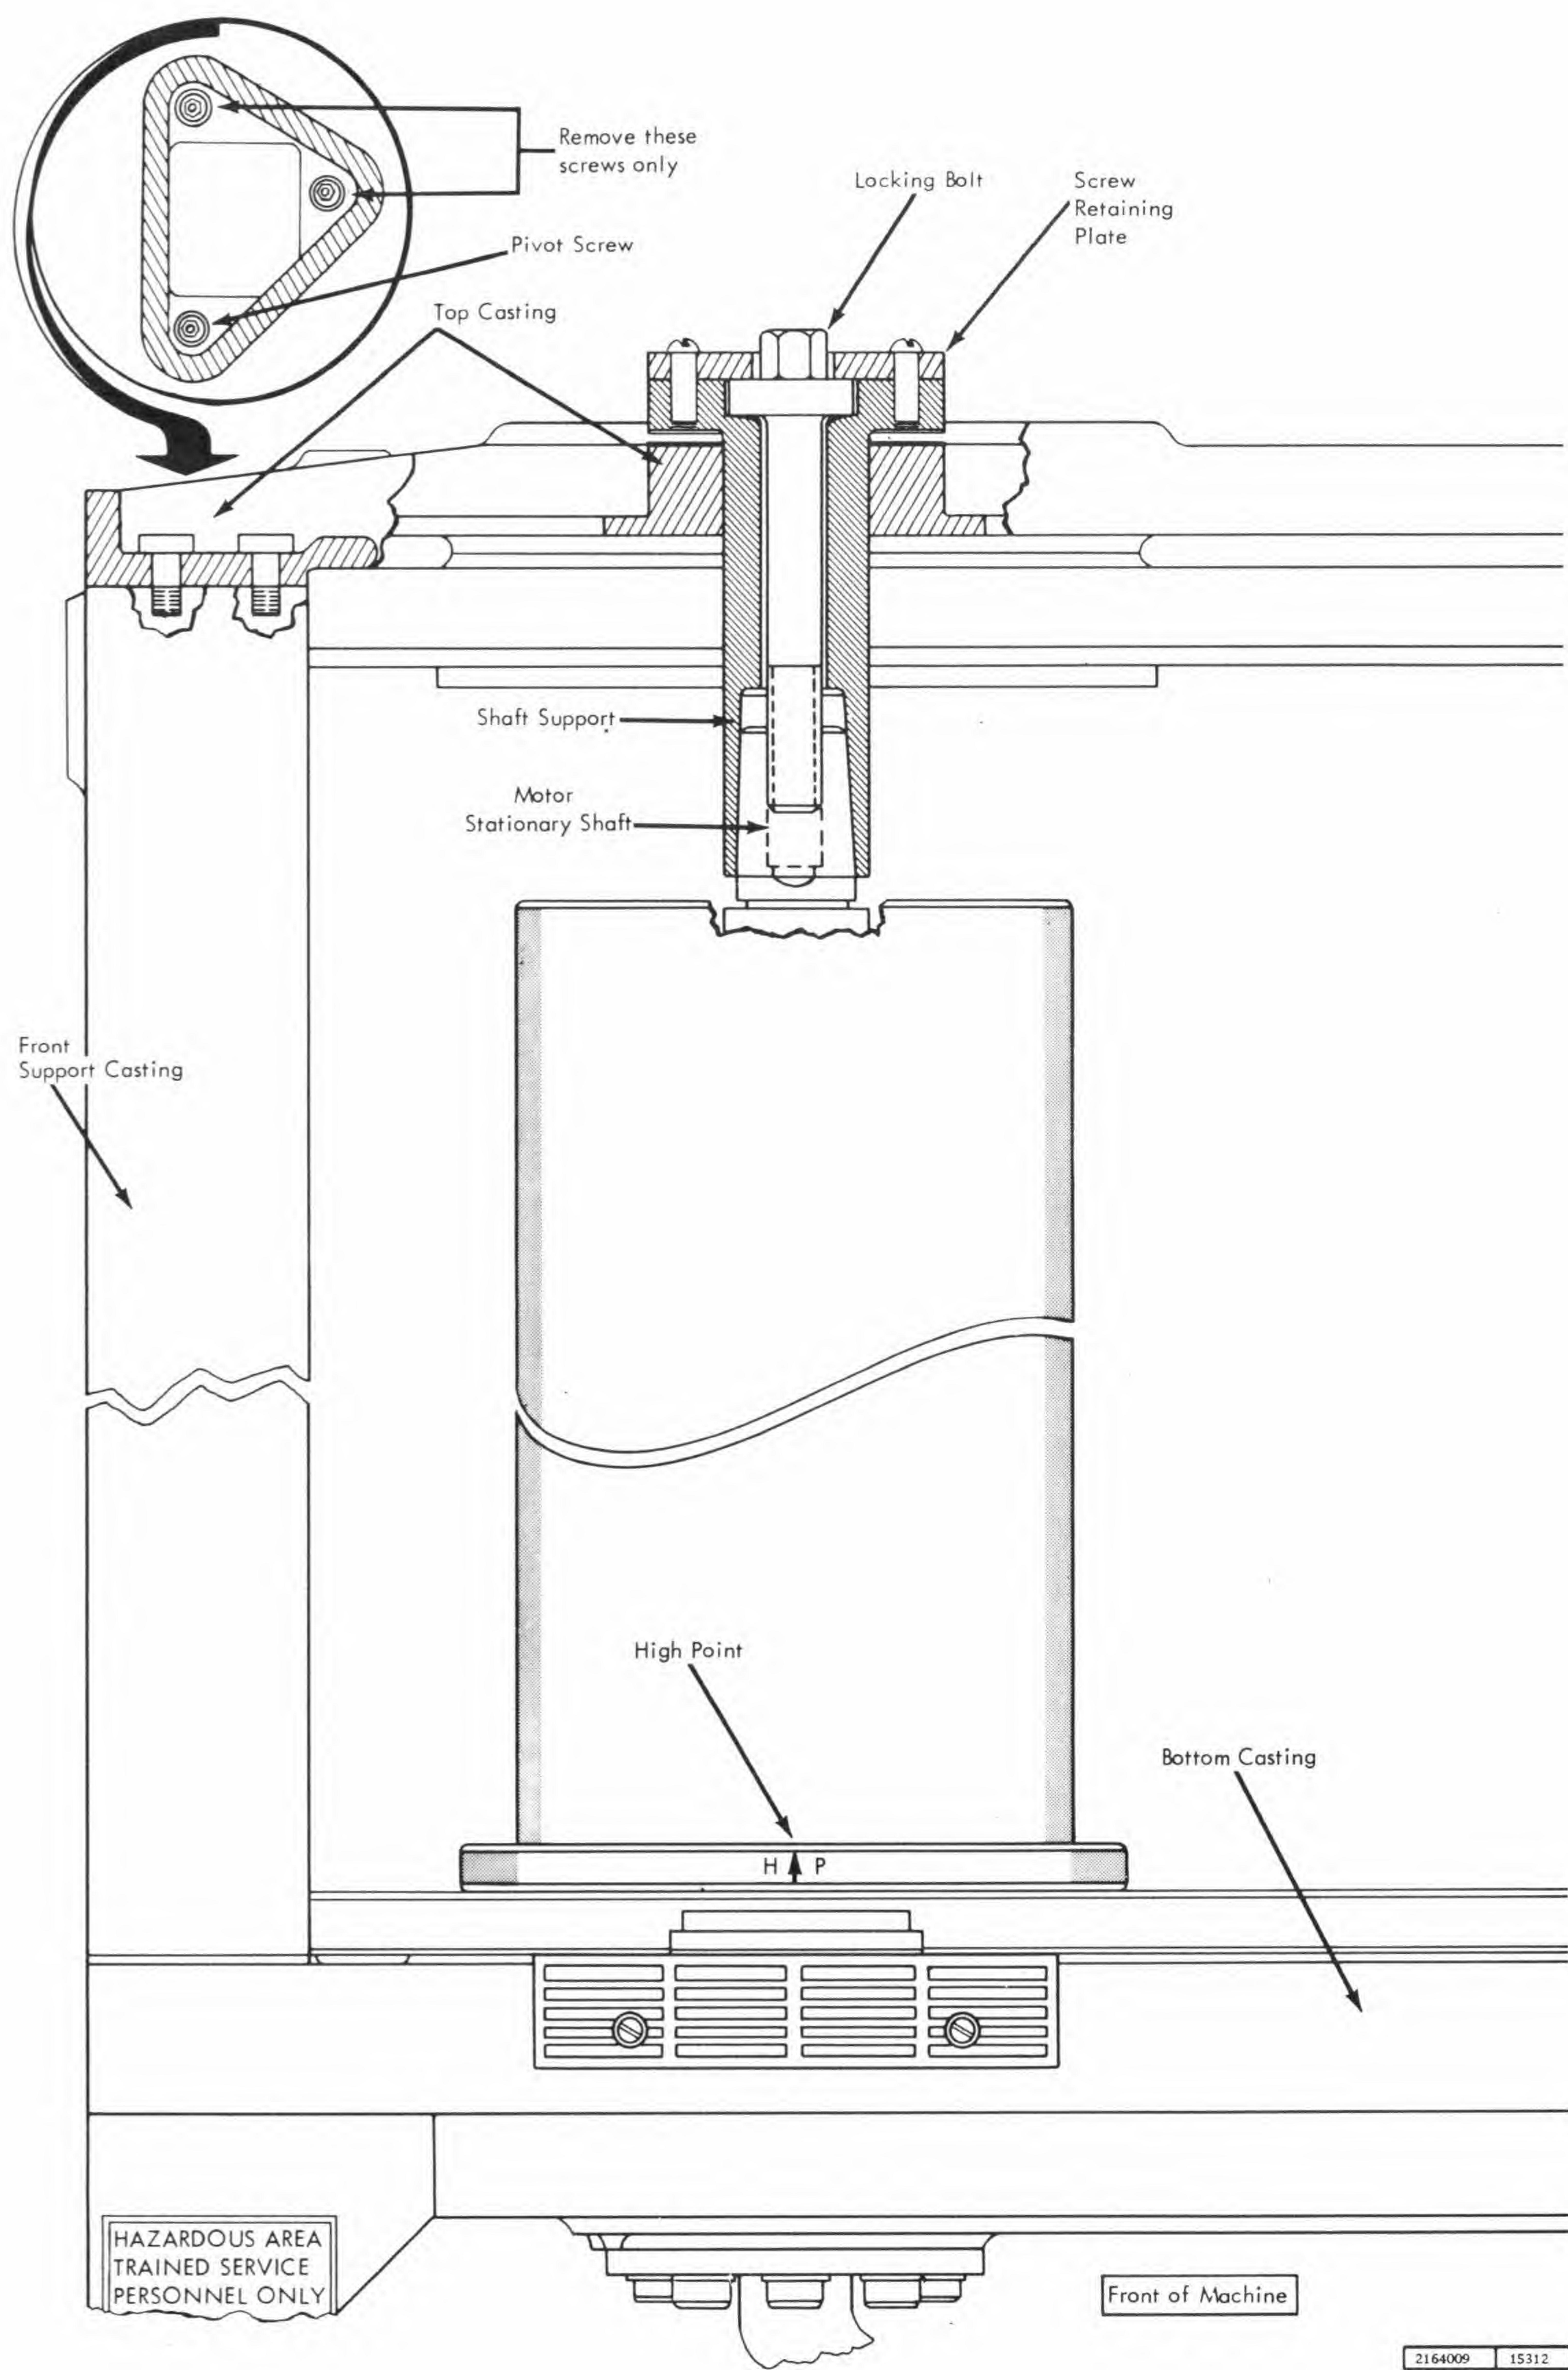

Figure 2-7. Shaft Motor
6. Remove the two rearmost screws from the top and bottom of the front support casting and rotate casting 90° clockwise, away from the disk array (Figure 2-7).
9. Remove locking bolt (Figure 2-7). During this removal process, the locking bolt will exert a lifting force on the bottom of the screw retaining plate. This lifting force will raise the screw retaining plate and the shaft support stationary shaft. Do not remove locking bolt or shaft support from top casting. If just restacking disk, raise it so that its underside is flush with bottom of top casting. Use aluminum spacer block from disk alignment kit to prevent its falling and damaging disk surface. If replacing shaftmotor, remove entirely.